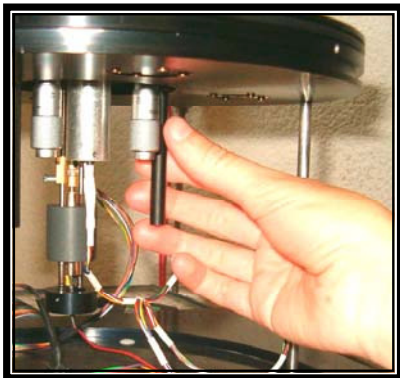

Fig. 4.21
9. Once you have secured the head, use the two manual screws to approach tip and sample until they are close, but without crashing. It is advisable to move them with your thumbs, as shown in the next images (see Fig.4.21 and 4.22). If you turn the screws clockwise the head will approach to the sample and if you turn them in the other direction the head will withdraw.